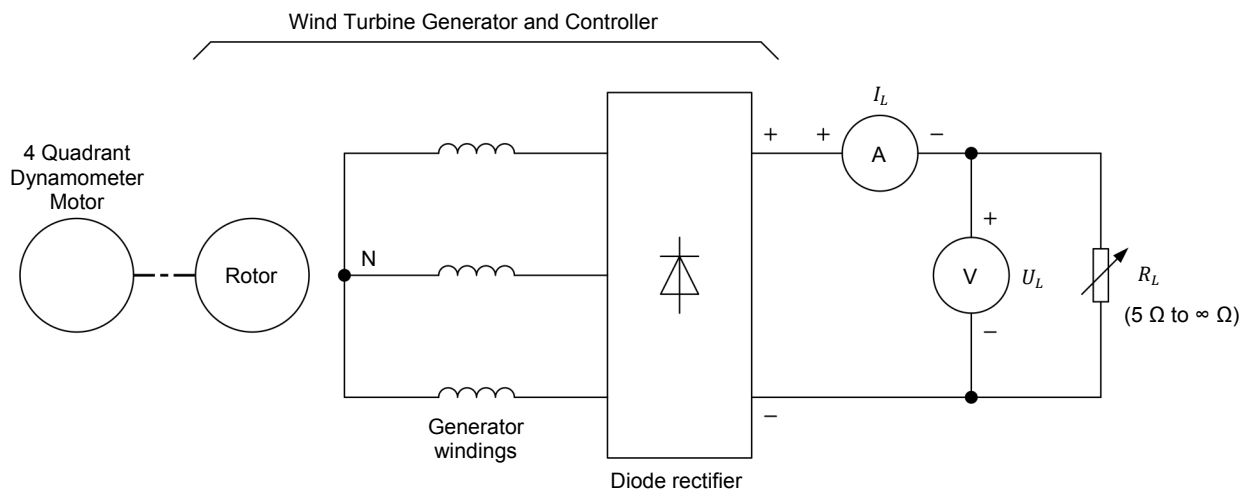

Figure 35. Equipment setup.
15. Set up the circuit shown in Figure 35. In this setup, the **4 Quadrant Dynamometer Motor** drives the wind turbine generator, thereby producing an ac voltage across the generator windings (-G1). A diode rectifier (i.e., the -T2 section) in the **Wind Turbine Generator and Controller** converts this ac voltage into dc voltage to supply electrical dc power to a variable resistive load, R_L (5Ω to infinite Ω).
Set a multimeter to measure dc voltage and connect it across the load, as Figure 35 shows.
Appendix C lists the switch settings to be performed on the *Resistive Load* module in order to insert various resistance values into the circuit. The resistance provided by the *Resistive Load* module cannot be decreased below $210\ \Omega$. To further decrease the load resistance, stop the wind turbine emulator. Then, disconnect the diode rectifier output of the *Wind Turbine Generator and Controller* from the *Resistive Load* module. Connect the diode rectifier output of the *Wind Turbine Generator and Controller* to the *Wind Turbine Load Resistors* and arrange these resistors in order to set the load resistance to different values. The possible resistor arrangements (series, parallel, series-parallel) provide resistance values between $5\ \Omega$ and $45\ \Omega$. Be sure to include the ammeter and the voltmeter in the circuit in order to measure the dc voltage and dc current supplied to the load, as shown in Figure 35. For each load resistance setting, start the wind turbine emulator and record the rotation speed, torque, and mechanical power at the wind turbine rotor in Table 3. Also, record the dc voltage and dc current supplied to the load by the wind turbine generator. Stop the wind turbine emulator before modifying any connection between the resistors of the *Wind Turbine Load Resistors*.
Connect the multimeter set to measure dc current in series with the diode rectifier output of the *Wind Turbine Generator and Controller*, as Figure 35 shows. Connect the multimeter set to measure dc voltage across the load, as Figure 35 shows.
Appendix C lists the switch settings to be performed on the Resistive Load module in order to insert various resistance values into the circuit. The resistance provided by the Resistive Load module cannot be decreased below 210 Ω . To further decrease the load resistance, stop the wind turbine emulator. Then, disconnect the diode rectifier output of the Wind Turbine Generator and Controller from the Resistive Load module. Connect the diode rectifier output of the Wind Turbine Generator and Controller to the Wind Turbine Load Resistors and arrange these resistors in order to set the load resistance to different values. The possible resistor arrangements (series, parallel, series-parallel) provide resistance values between 5 Ω and 45 Ω . Be sure to include the ammeter and the voltmeter in the circuit in order to measure the dc voltage and dc current supplied to the load, as shown in Figure 35. For each load resistance setting, start the wind turbine emulator and record the rotation speed, torque, and mechanical power at the wind turbine rotor in Table 4. Also, record the dc voltage and dc current supplied to the load by the wind turbine generator. Stop the wind turbine emulator before modifying any connection between the resistors of the Wind Turbine Load Resistors.
Connect the multimeter set to measure dc current in series with the diode rectifier output of the **Wind Turbine Generator and Controller**, as Figure 35 shows. Connect the multimeter set to measure dc voltage across the load, as Figure 35 shows.